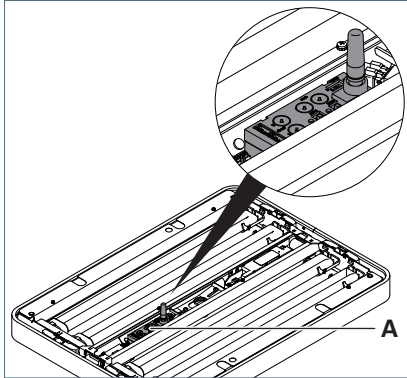

Fig. 3: Module in an ATARO luminaire head.
- ▶ Insert the module **A** into the unused area in the central support of the luminaire head, see Fig. 3